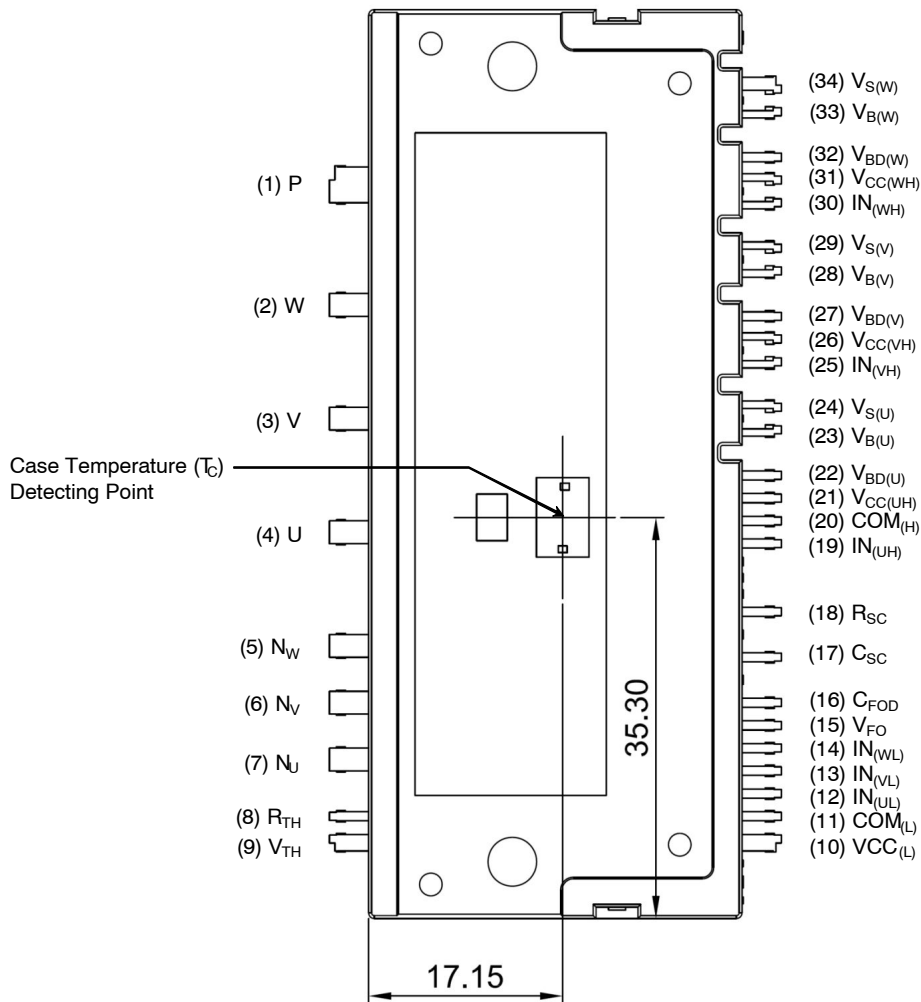

Figure 1. Top View
5. For the measurement point of case temperature (T_C), please refer to Figure 1.